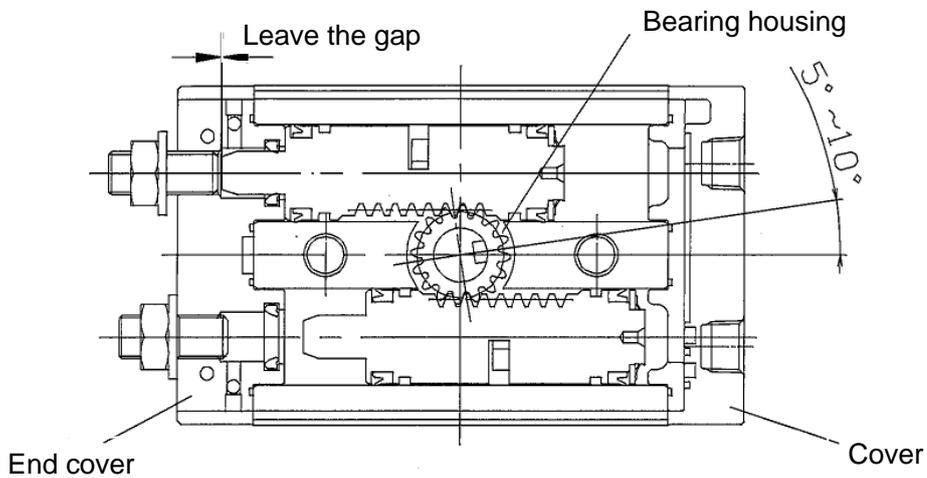

Fig.24
(3) Mount the cover and the end cover, and push the piston Ass'y and the cover until they touch the end cover as in Fig.24 Adjust the hexagon socket head set screw (adjust bolt) so that the screw does not contact with the piston Ass'y.